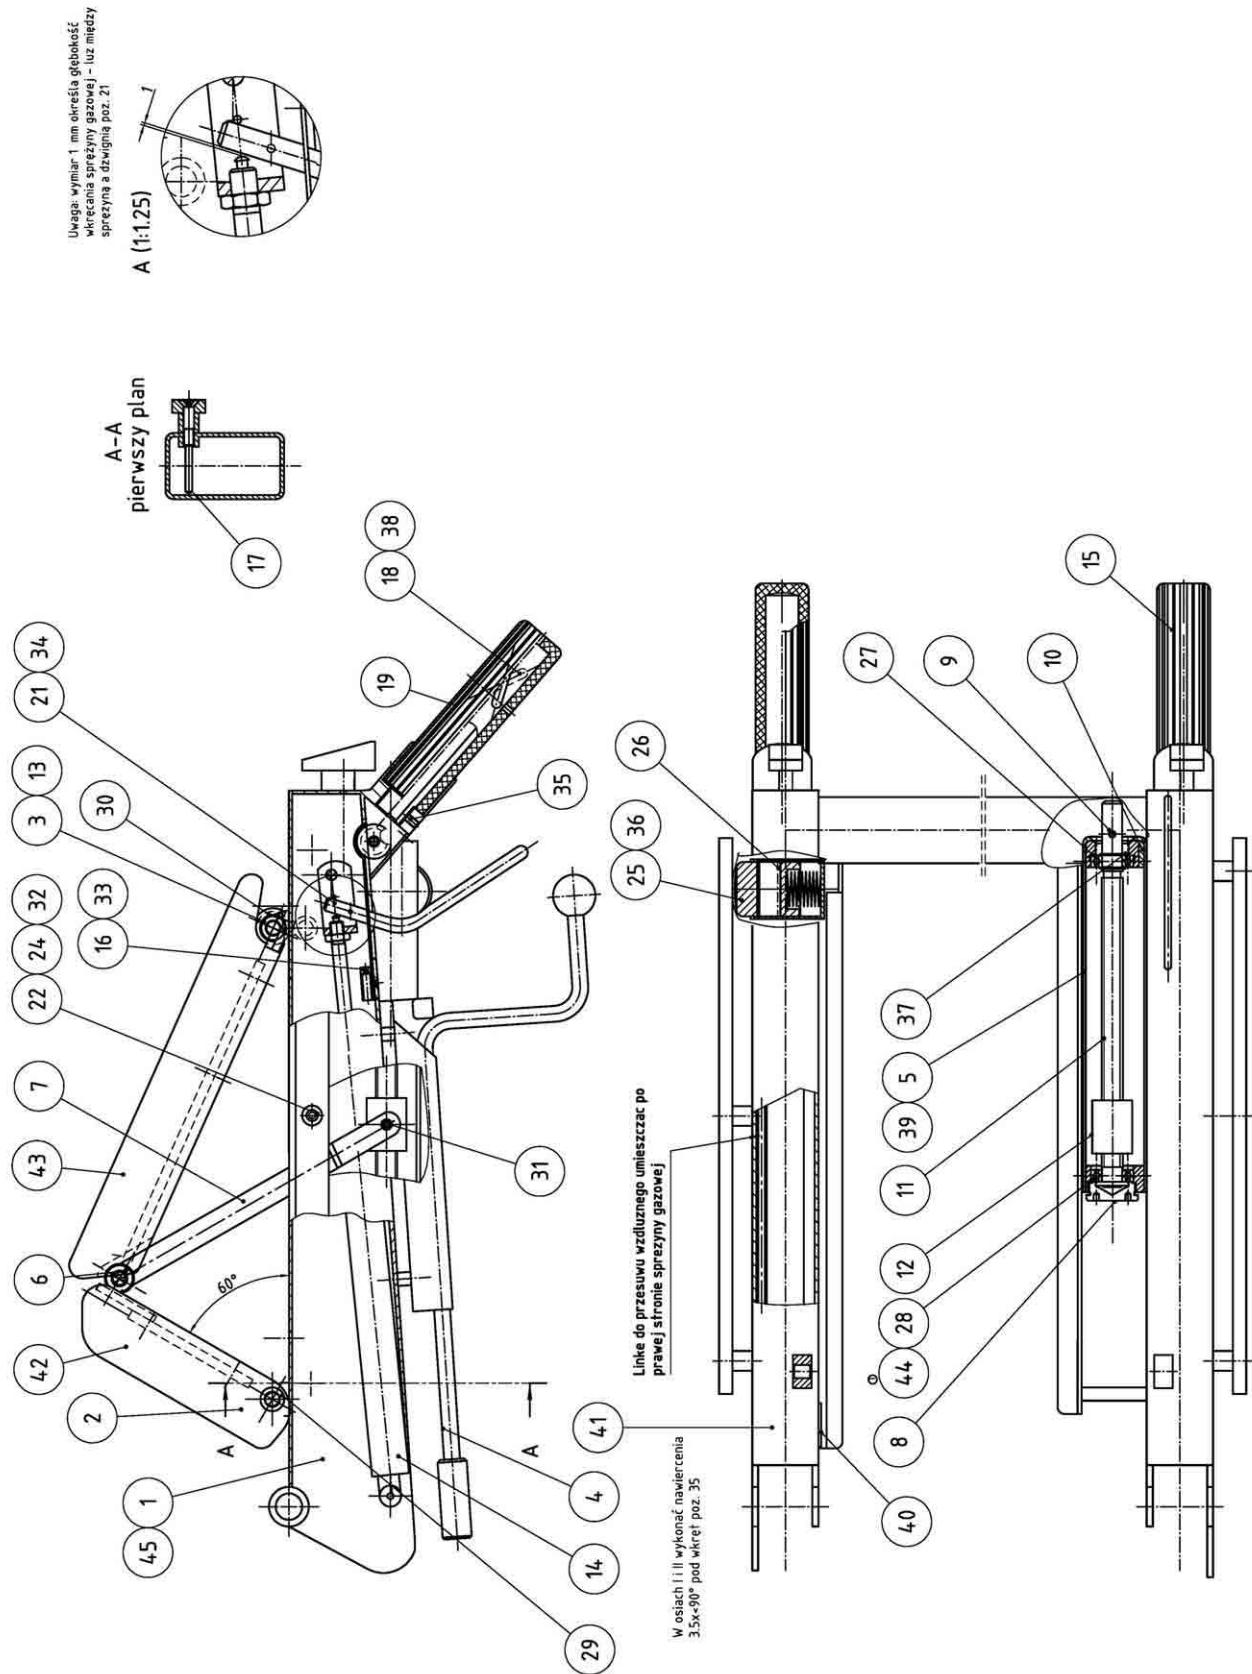
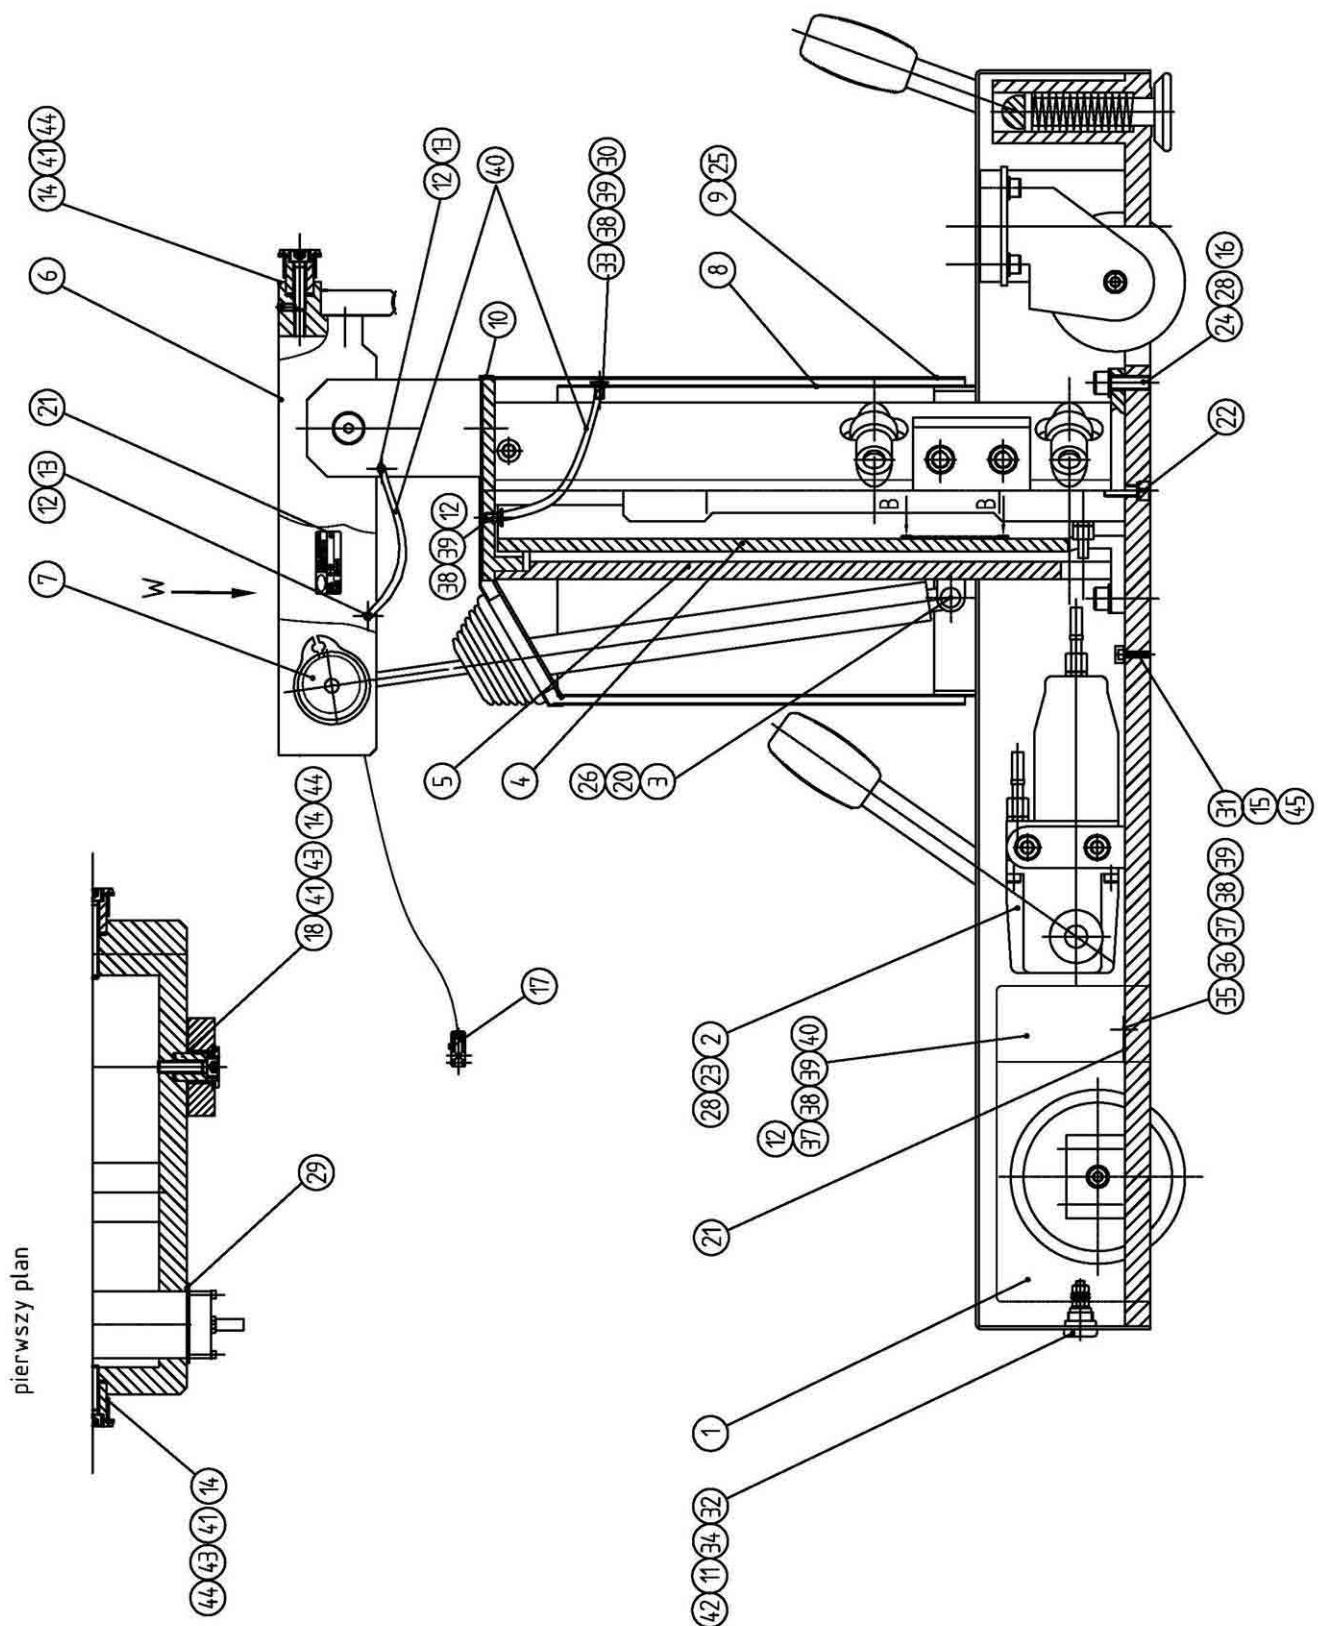

Fig.7 Backrest set
Fig.10 Base of the table in standard version
Disassembly of pneumatic springs (item 14, 41 on fig. 7)
1. Unscrew the M4 screw (item 34) and remove the lever (item 21).
4. Unscrew the M8 screw (item 32) which fixes the connector of the backrest drive (item 14, 41) to the framework (item 1) and take the backrest drive (item 14, 41) from the framework of the backrest (item 1).
8. Repeat activities from items 4 ÷ 7 for the second pneumatic spring.
Assembly of pneumatic springs (item 14, 41: fig. 7)
3. Put the backrest drive (item 14, 41) in the frame of the backrest (item 1).
4. Screw the M8 screw (item 32) which fixes the backrest drive to the backrest framework (item 1).
5. Repeat activities from items 2 ÷ 4 with the other spring.
3. Put the end of the armour in the bumper set (item 16 on fig. 7) and pull it through the roll in the upper part of the framework of the backrest.
4. Put a driver (item 17 on fig. 10) on the end of the cord and pull it through the axis II (item 18 on fig. 7) which should be screwed to the framework of the seat.
5. Place the handle II (item 19 on fig. 7), put a peg (item 38 on fig. 7) through the handle II, the axis II and the driver.
**The backrest with a kidney bench are described in items 2.3.1 and 2.3.2. In a backrest without a kidney bench elements are replaced in a similar way.**
5. Unscrew M3 screws (item 25 on fig. 10) from the fixed cover (item 9 on fig. 10),